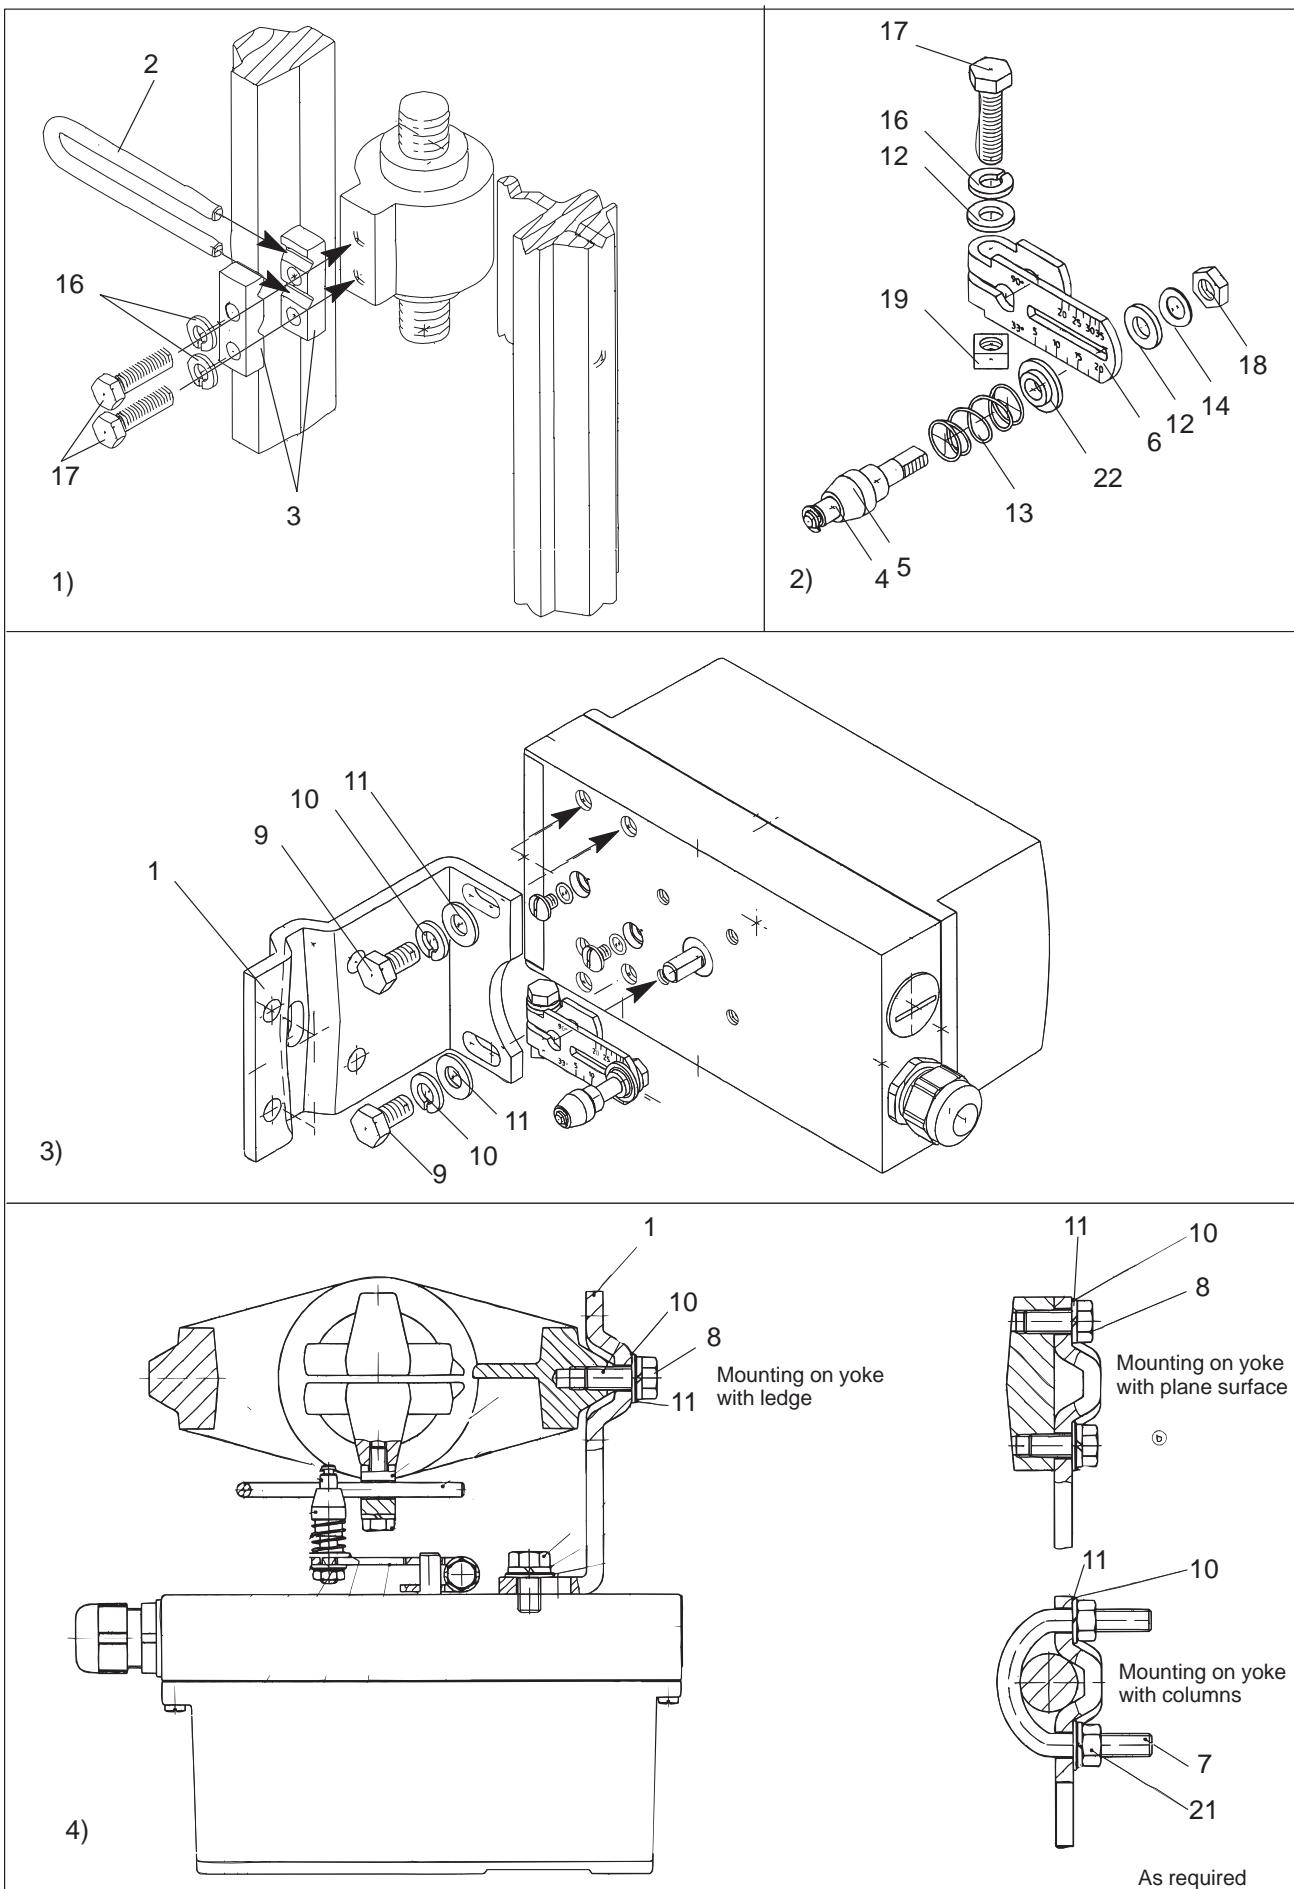

Fig. 1 Assembly sequence (linear actuator)
The following are included in the *delivery of the extension kit "Linear actuator IEC 534 (3 mm to 35 mm)"* (see Fig. 1 for item Nos.):
#### 3.2.1 Assembly Sequence (see Fig. 1)
2. Push the driver pin (4, Fig. 1, 2) on the lever (6, Fig. 1, 2) to the scale position corresponding to the nominal stroke or the next highest scale position and screw the driver pin tight with the nut (18, Fig. 1, 2).